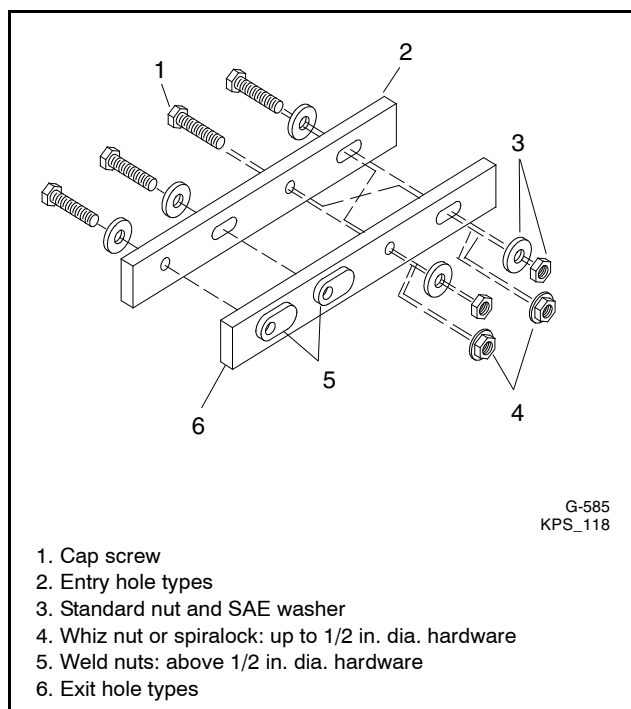

Figure 2 Acceptable Hardware Combinations
For round and slotted exit holes, determine if hardware is greater than $1/2$ inch in diameter, or $1/2$ inch in diameter or less. Hardware that is *greater than $1/2$ inch* in diameter takes a standard nut and SAE washer. Hardware *$1/2$ inch or less* in diameter can take a properly torqued whiz nut or spirallock nut. See Figure 2.
4. Refer to Figure 2, which depicts the preceding hardware configuration possibilities.